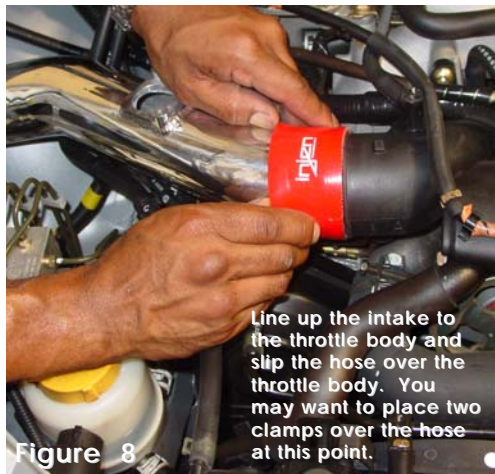

Figure 8
- 8- Line up the throttle body end of the intake to the turbo inlet and slide the 2 7/8" hose over to the turbo inlet. (See fig. 8) Tighten the clamp on the intake end and semi-tighten the clamp on the turbo inlet side at this point. (See fig. 9)